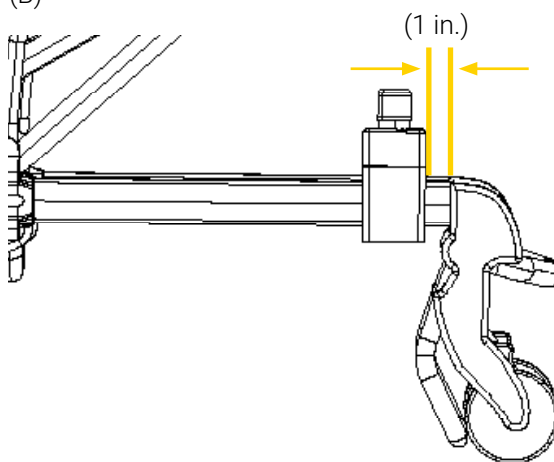

Figure 53: Installing the XTPA-PPXT push bar clamp blocks
3. Partially tighten the exterior part of the push bar clamp block on the outside of the stretcher frame and the interior part of the push bar clamp block on the inside of the stretcher frame, using four (4) $\frac{1}{4}$ - 20 X 1 in. flat head hex drive screws and a $\frac{5}{32}$ in. hex key (Figure 53 A).
4. Leave a 1 in. gap between the push bar clamp block and the end of the stretcher, then tighten the four (4) screws using a $\frac{5}{32}$ in. hex key, alternating the screw heads (Figure 53 B).